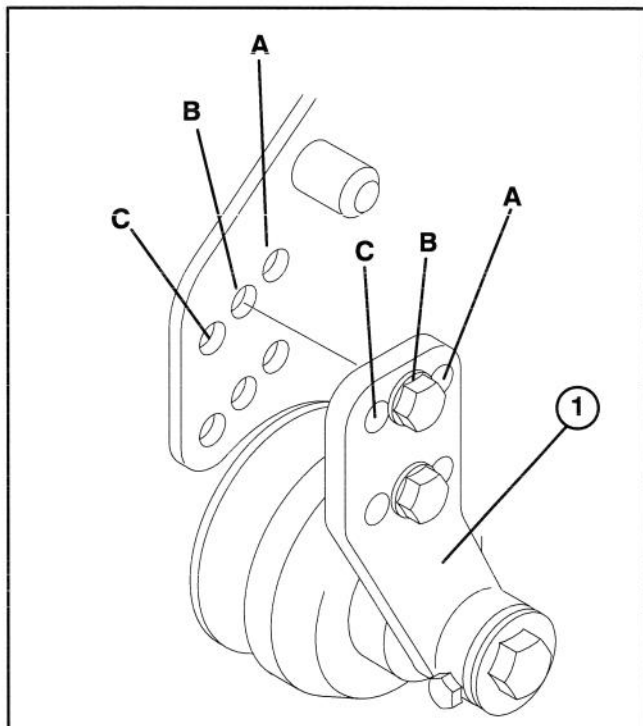

Figure 4
3. Loosely secure each roller bracket to side plates with (2) flangehead capscrews and locknuts. Position roller as shown in figure 4. Capscrew heads to be positioned on outside of roller brackets.